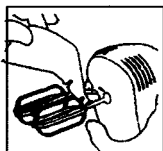

Figure 3
3. Place Spatula attachment over the top of the Beater Stems with Spatula Slots parallel with Beater Stems; now angle the Grips of the Spatula in between the Beater Stems. Grips are now in a position perpendicular to the Beater Stems. (See Figure 3.)